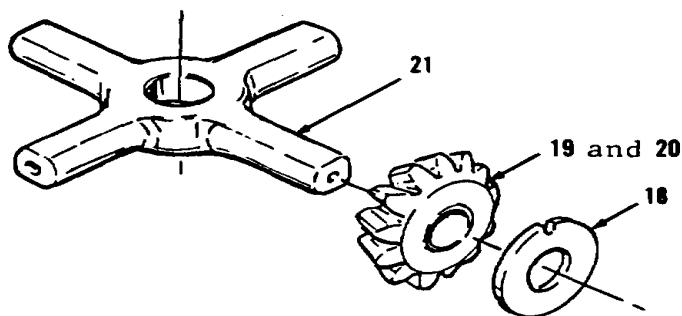

Figure 14-125.
8. Remove four washers (18) and items 19 and 20 as an assembly from spider (21, Figure 14-125).